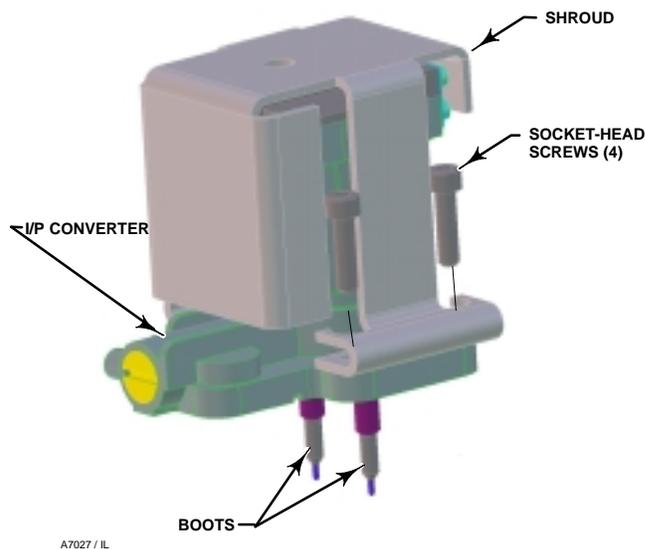

Figure 8-3. I/P Converter
2. Refer to figure 8-3. Remove the four socket-head screws that attach the shroud and I/P converter to the module base.
2. Ensure the two boots shown in figure 8-3 are properly installed on the electrical leads.